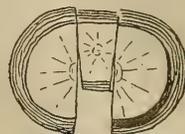

Fig. 40, Cross section of stock and scion.
h. **The scion and its treatment.** Fig 40.
2. Point out the scion and stock in Fig. 40.